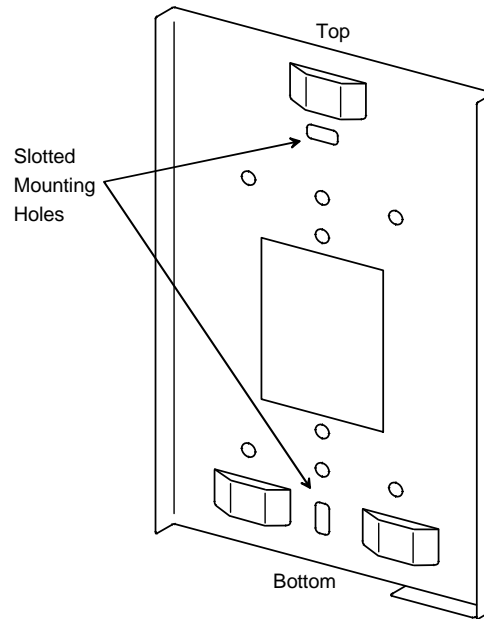

Figure 2. Mounting Bracket
Use Steps 1 through 3 and Figures 2 and 3 to mount the power supply on a wall or other surface capable of supporting the weight of the supply (approximately 5 pounds). Carefully unpack the power supply and inspect for shipping damage.
1. Using the mounting bracket (see Figure 2) as a template, mark the two slotted holes on the surface of the wall.
2. Using mounting hardware capable of supporting approximately 5 pounds, mount the bracket to the wall ensuring that the mounting holes are oriented as shown in Figure 2.